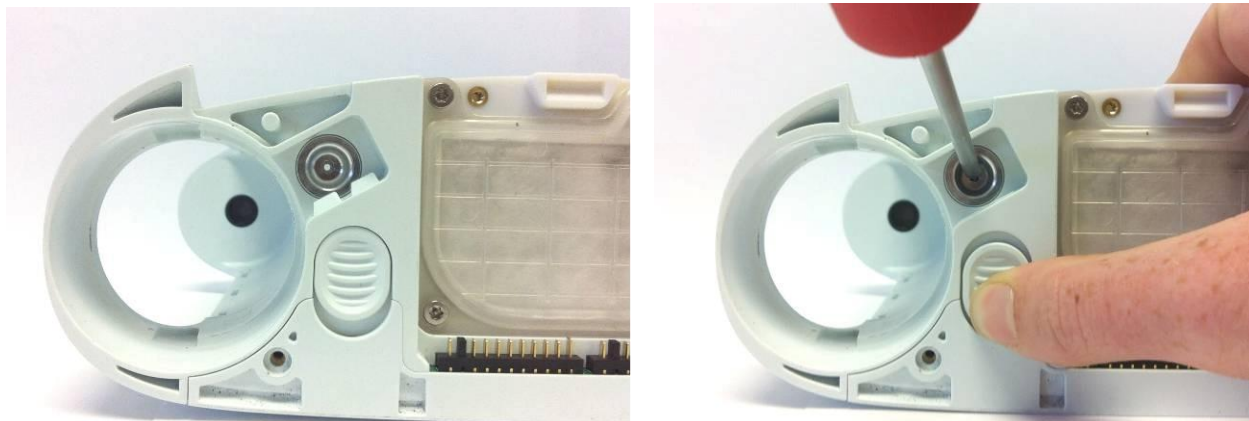

Figure 5: Push down on column latch while unscrewing receptacle
5. Using a T10 torx driver, unscrew the receptacle from the underside of the chassis while pressing down on the column latch to lower the column latch teeth (Figure 5). Remove the receptacle through the bottom of the device, slowly pulling the tubing through the chassis. The receptacle washer should remain in place on the other side of the chassis.
1. Feed the new receptacle and tubing assembly up through the washer, threading them in and tightening to 3 in-lbs while pressing down on the column latch to lower the column latch teeth (Figure 5). Using compressed air, blow out any debris from the tubing end of the receptacle prior to installing the tubing into the manifold or the column into the receptacle.